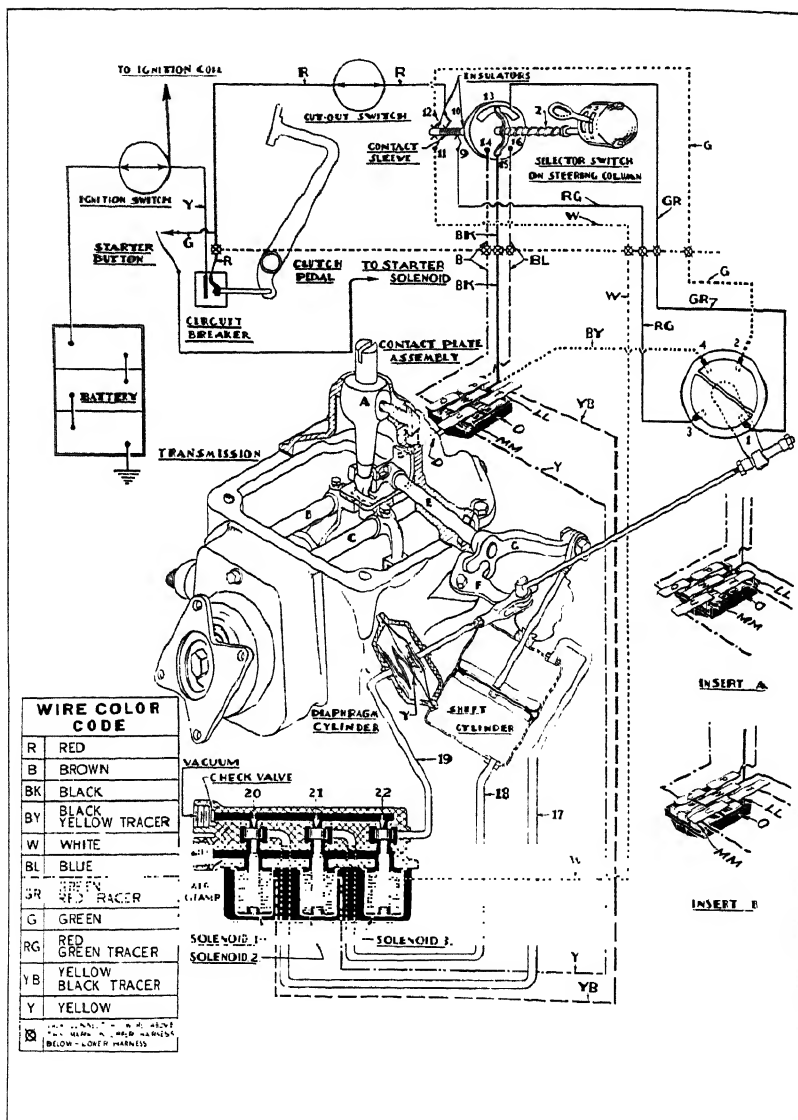
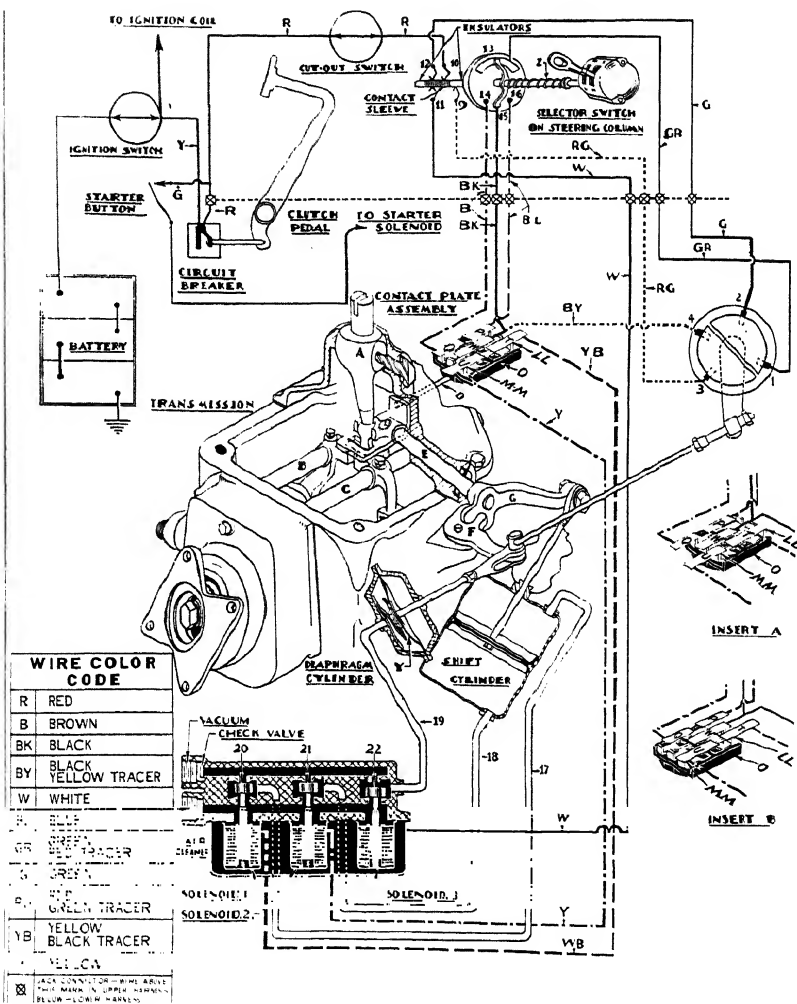

Fig. 6.—THE ELECTRIC HAND (1935-36 MODELS)—SELECTOR IN NEUTRAL POSITION
Fig. 7.—THE ELECTRIC HAND (1935-36 MODELS)
A contact plate on the earlier models opens the circuit after the gear change has been completed. This switch is controlled by a rod connected to the bottom of the changing lever (*A*) (Fig. 6).
The power cylinder has a vacuum-operated piston which provides the power for the forward and rearward movement for changing the gears. When the valve (21) (Fig. 6) in the vacuum line to the rear of the power cylinder is drawn down by its solenoid, opening the vacuum line, the piston moves backward. When the valve (20) in the vacuum line to the front of the power cylinder is drawn down by its solenoid, the piston moves forward. The movement of the piston is transmitted to the changing lever (*A*) through the control cross-shaft (*E*) and inner and outer levers.
The cross-change cylinder is of the diaphragm type. A spring (*F*) (Fig. 6) in the cylinder presses the diaphragm forward, which, through connecting linkage (*F*, *G*, *E*), holds the change lever (*A*) of the transmission engaged with the high- and second-speed change-rail fork (*B*)
(Fig. 6). When the valve (22) connected to the cross-change cylinder is drawn down by its solenoid, the diaphragm moves backward, pulling the bellcrank (*F*) which moves the control shaft (*E*) to the right to engage the lower end of the change lever (*A*) with the low and reverse change-rail fork (*C*). This position is shown in Fig. 7.
Fig. 6 shows the selector in neutral, with the lever held to the right by the spring (*Z*). The gears are also in neutral, and the lower end of the change lever (*A*) is held to the right by the spring (*Y*) in the diaphragm cylinder, so that it is engaged in the notch of the high and intermediate change fork (*B*).
Fig. 7 shows the same condition as in Fig. 6, except the selector lever has been pushed to the left but is still in the neutral position. It will be noted that the circuit from (10) in the selector switch is now completed through the contact sleeve to both (11) and (12).
The circuit from (12) is to (2) and (1) on the interlock switch, to (13) to (15) on the selector switch to bar (*W*) on the contact plate. Now, following the same procedure as under Fig. 6 it will be seen that, if the gearbox were in low gear, the contact plate would be in the position of Insert A (same as for high gear), energising solenoid (2) and the change would be to neutral. If the gear were in reverse, the contact plate would be in the position of Insert B (same as for second gear), energising solenoid (1) and the shift would be to neutral.
Referring again to Fig. 6, it will be seen that if the selector lever is moved to the high-gear position (transmission in neutral), the circuit will be completed as before to (13) on the selector switch, then to (16) to (*P*) on the contact plate through the fingers (*LL*) to (*T*) to solenoid 1, and the change rail (*B*) will be moved forward until the contact plate reaches the position of Insert A when the fingers (*LL*) will move off bar (*P*), opening the circuit.
Referring to Fig. 7, the action will be the same for low and reverse as just explained for high and second as the lever (*A*) is held in engagement with the change rail (*C*) and all other circuits are identical.